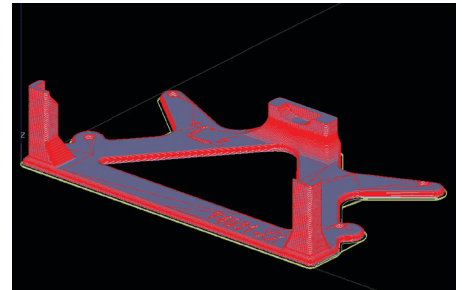

Figure 41: Orient to minimize layers and volume of supports.
- Build time (Figures 41 and 42)